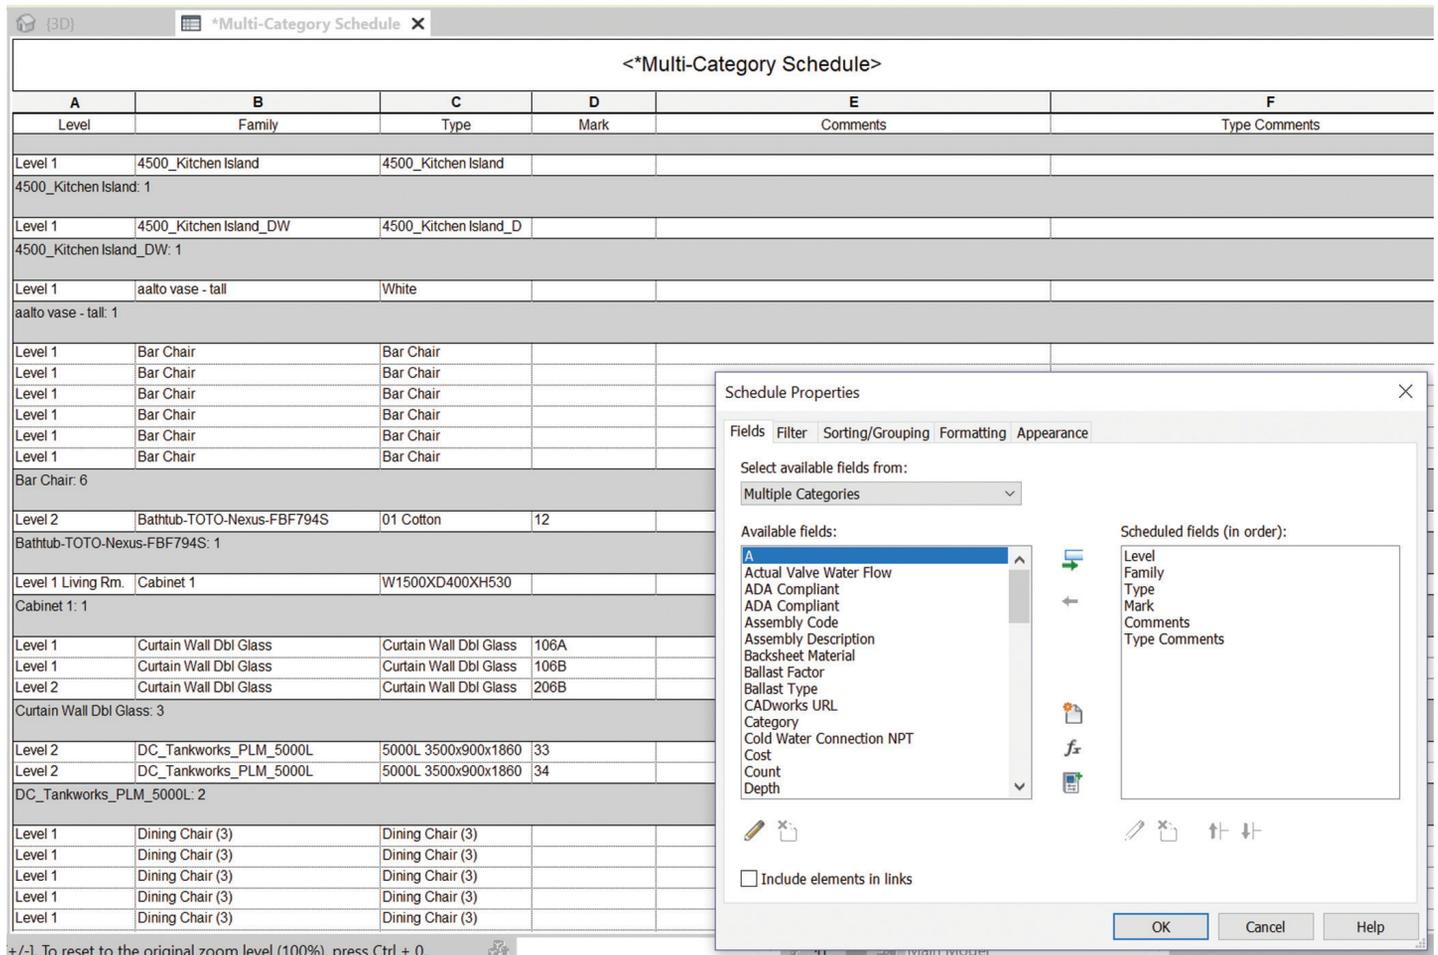

Figure 1
- A. Create a Multi-Category Schedule as in Figure 1